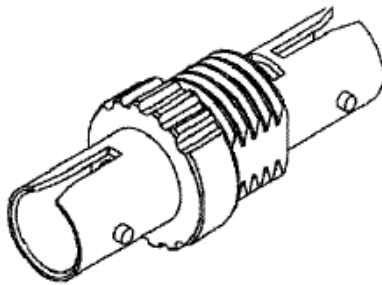

fig. 4.4 Coupling receptacle ST
- *Coupling Receptacle* when adapting fibers using the same kind of termination connector (e.g. *ST-ST*, as the ones used on the *Educational Panel* fig. 4.4).